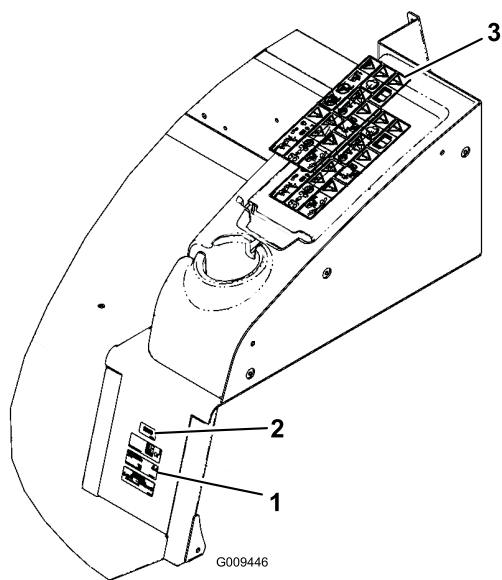

Figure 9
- 1. Thoroughly clean the area where you will install the decal (Figure 9).
3. Peel the backing from the decals and install the decals at the locations shown in Figure 9.